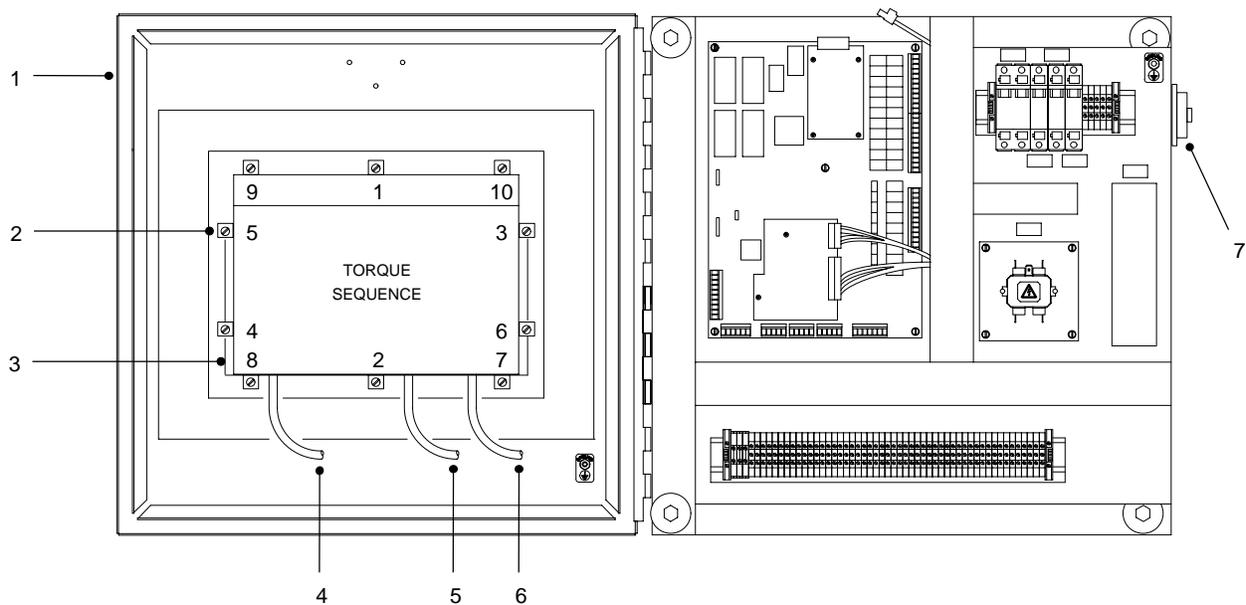

Figure 9 PCI Controller 105798 Operator Interface
2. See Figure 9. Turn off the power switch (7).
3. Open the enclosure door (1).
4. Disconnect the AC (4), COMM (5), and DeviceNet (6) cables from the operator interface (3).
5. Remove the mounting clips (2) securing the operator interface (3) to the enclosure door (1). Remove the operator interface from the enclosure door.
6. Make sure that the sealing gasket on the operator interface (3) is properly positioned.
7. Install the new operator interface (3) into the enclosure door (1).
8. Install the mounting clips (2). Using the torque sequence shown in Figure 9, tighten the mounting clips to 10 in.-lb (1.1 N•m).
9. Connect the AC (4), COMM (5), and DeviceNet (6) cables to the operator interface (3).
10. Close the enclosure door (1).